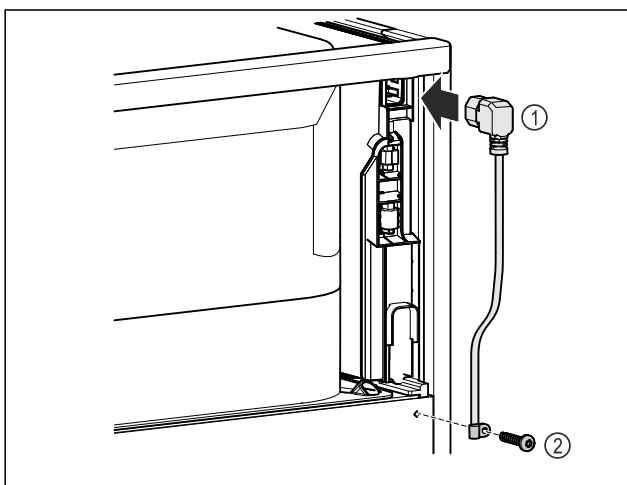

Fig. 43
- ▶ IEC socket of the power cable Fig. 43 (1) on the rear side of the appliance.
- ▶ Install mains tension relief. Fig. 43 (2)